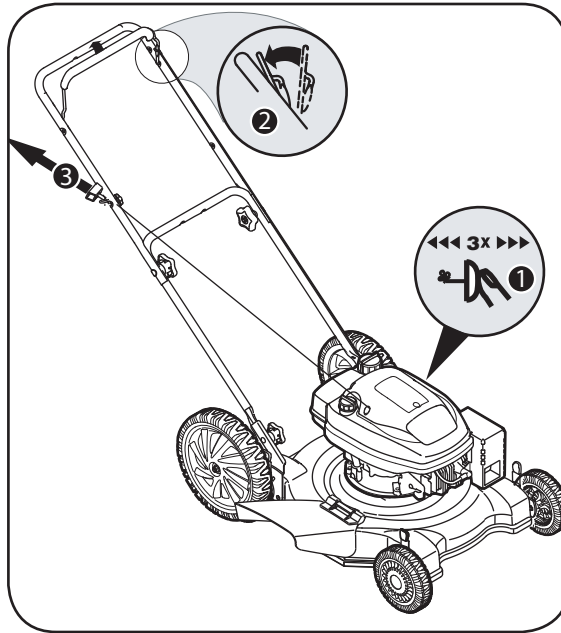

Figure 2
1. Push primer three times. Wait about two seconds between each push. See Figure 2. In temperature around 55° F or below, prime five times. Do not prime to restart a warm engine.
2. Standing behind the mower, squeeze the blade control against upper handle. See Figure 2.
3. Holding these two handles together firmly, grasp recoil starter handle and pull rope out with a rapid, continuous, full arm stroke. See Figure 2. Keeping a firm grip on the starter handle, let the rope rewind slowly. Repeat until engine cranks. Let the rope rewind each time slowly.